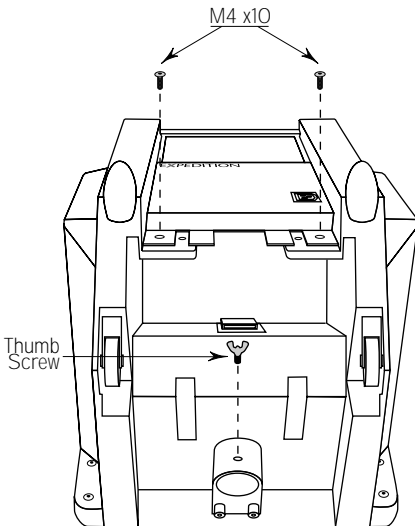

figure 1
- 1 With the rear of the Expedition cabinet facing you, lie the cabinet face down on a soft surface as not to scratch the front grille. (figure 1)
- 2 Using a phillips screwdriver, remove the two M4 x 10 lower rear panel screws (to be re-used in step 6) and pole mount thumb screw (figure 1) **NOTE:** If the cabinet is to be pole mounted, it should be secured to the pole at this time. You will not have access to the pole mounting screw after the battery is installed.